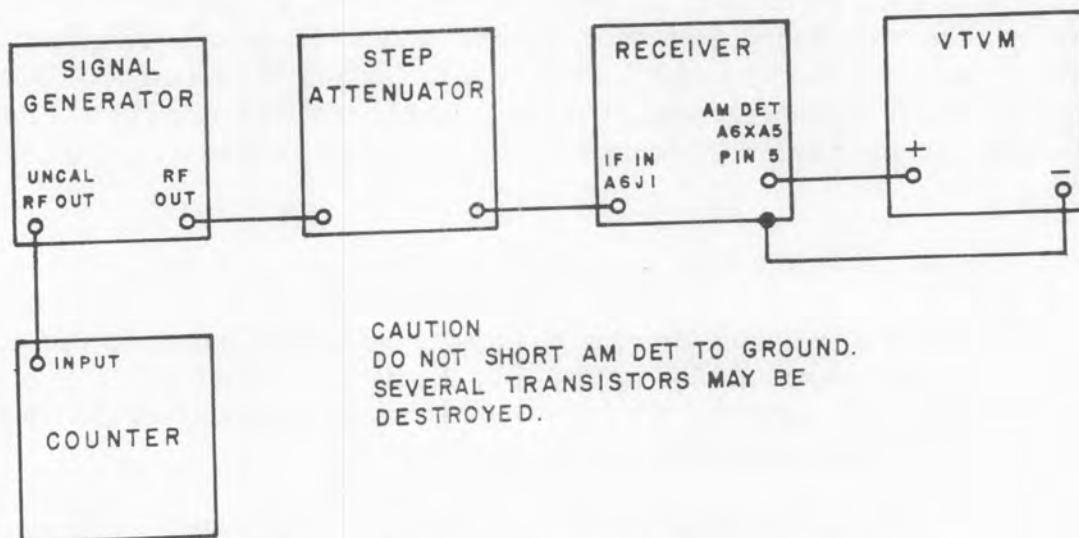

Figure 4-2. Test Setup for IF Bandwidth and Center Frequency Performance Tests.
- (1) Connect the equipment as shown in Figure 4-2.
- (2) Set the receiver MODE switch at AM/MAN, set the RF/IF GAIN control fully clockwise, and set the IF BANDWIDTH switch in position number 1 (ccw).
- (3) Set the step attenuator for 13 dB attenuation.
- (4) Set the signal generator for a cw output at 21.4 MHz. Adjust the signal generator output level for a 1 V dc reading on the vtvm.